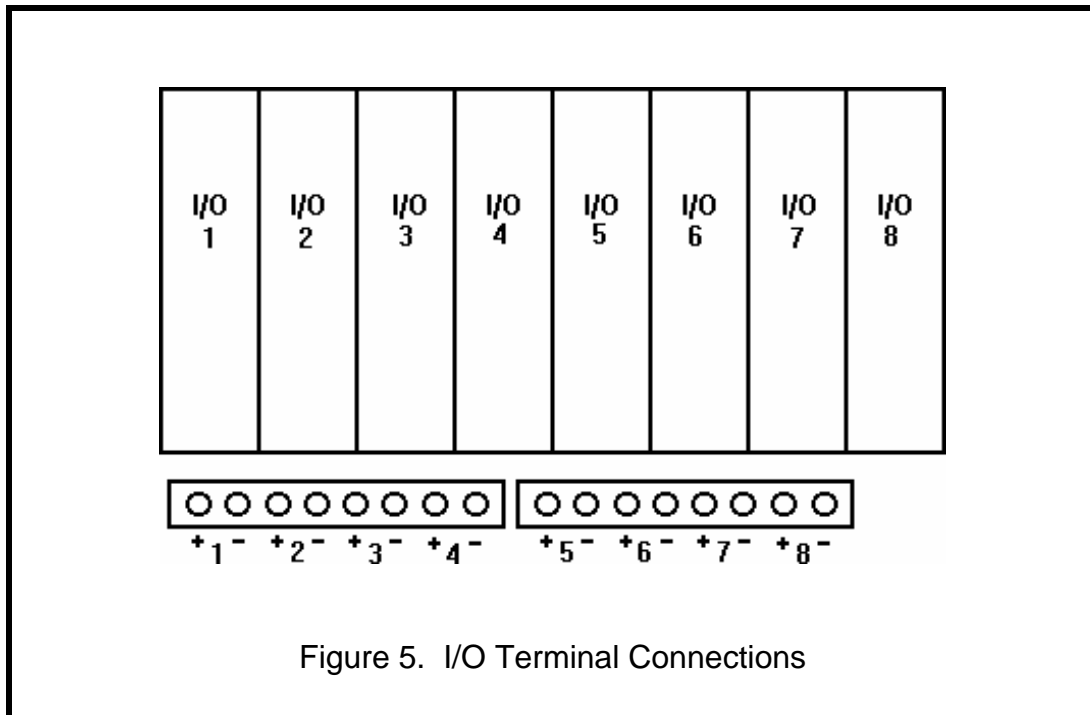

Figure 5. I/O Terminal Connections
3. Connect a local telephone (optional) to the dialer's PHONE jack, as shown in Figure 5 below.
**Step Four - Connect External Input/Output to the Dialer** Each I/O module has two (2) corresponding I/O terminals. See Figure 5 below. Use 22 AWG shielded twisted pair wire when wiring external sensors to the I/O terminals. Observe polarity when making connections. Whenever possible, ground the shield at the sensor end only. Sensor control wires should never share conduit with AC power wiring.